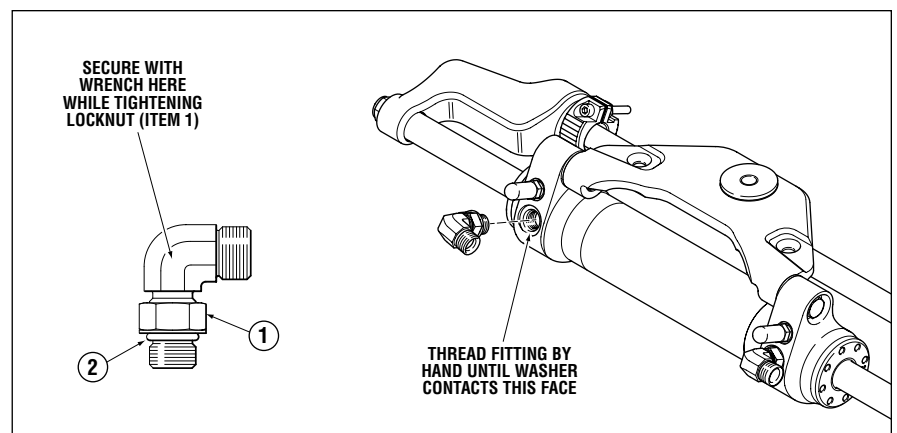

Figure 15.
1. Back off lock nut (item 1, figure 15), counter-clockwise, until it stops.
2. Thread fitting into cylinder body until fitting washer (item 2, figure 15) contacts the face of the cylinder port. Tighten hand tight, **DO NOT TORQUE FITTING AT THIS TIME.**
4. While holding fitting with a wrench, tighten the locknut (item 1, figure 15) and torque to 40–43 ft-lb.